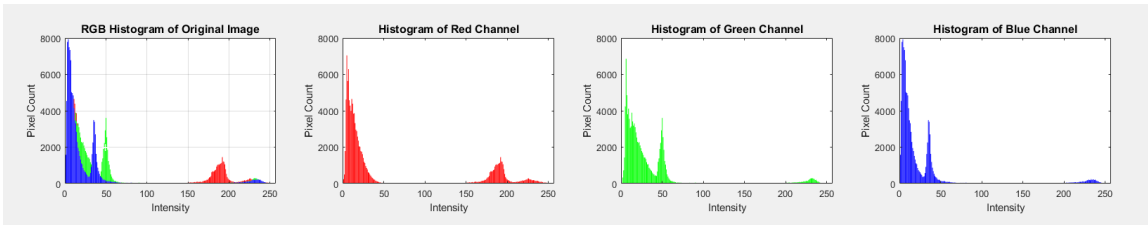

Figure 3: Plots of color band images with corresponding color band intensity histograms.
- 2. Plot the color intensity histograms of each of the red, blue, and green color band images on the same set of axes, using “imhist()”. Then, create a histogram for each individual color band image and plot them in the same Matlab figure alongside the histogram with all of the colors represented. Your results should look similar to Figure 3.